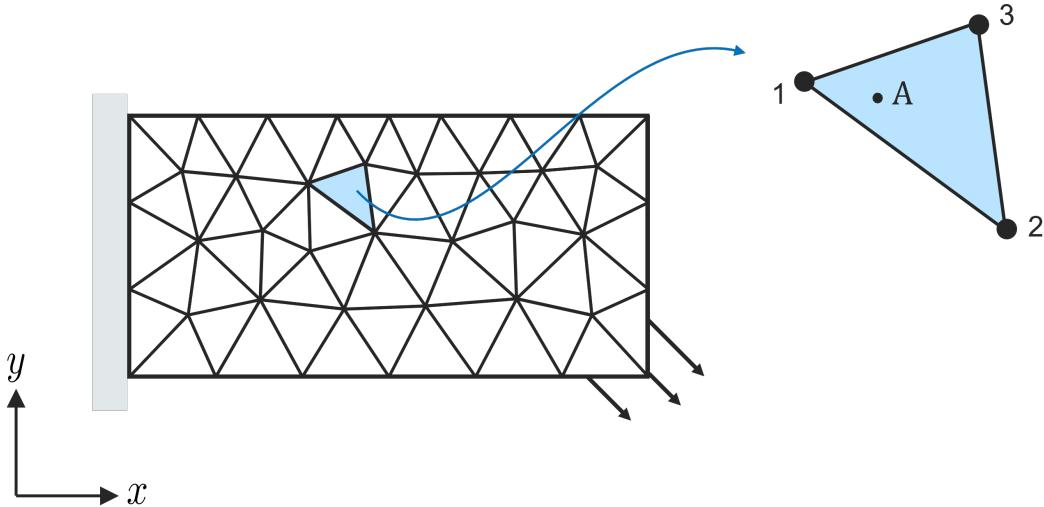

Figure 3: Illustration of component with discretization and the considered element in Problem 3.
Assume a mechanical FE simulation has been performed of a component with thickness  $t = 0.015$  m. The material is assumed linear elastic with Young's modulus  $E = 210$  GPa and Poisson's ratio  $\nu = 0.3$ . The simulation used a discretization of linear isoparametric triangular elements as can be seen in Figure 3. In this problem, you will only consider a single element (among those
- Consider a point A within the element with local coordinates  $[0.2, 0.1]^T$  in the parent domain. (The point is shown in the right part of Figure 3.) For this point, calculate the corresponding global coordinates  $\mathbf{x}_A = [x_A, y_A]^T$ . (1p)